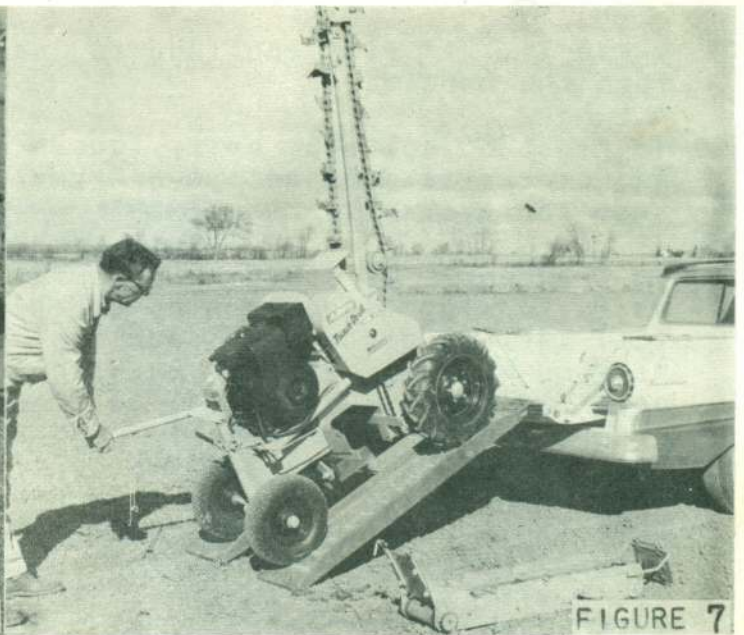

FIGURE 7
For truck or trailer transport, the machine is capable of loading itself. Refer to Figure 7. Loading planks with some auxiliary traction cleats should be made up. IMPORTANT - When loading or unloading, always use slow digging speeds. Never use transport speed. Also, be sure that wheel drive wing nut (S) is well tightened so that both wheels drive. The machine may be loaded either forwards or backwards. Always have boom raised as high as possible. Since the weight distribution of the machine is not so advantageous for forward loading (opposite to that shown in Figure 7) the operator should add some weight to the machine by bearing down on the handle as he leads it up the incline. When unloading, simply leave the digging speed drive engaged as the machine goes onto the incline. The machine cannot over-speed the drive mechanism when it reaches the steepest part of the incline.